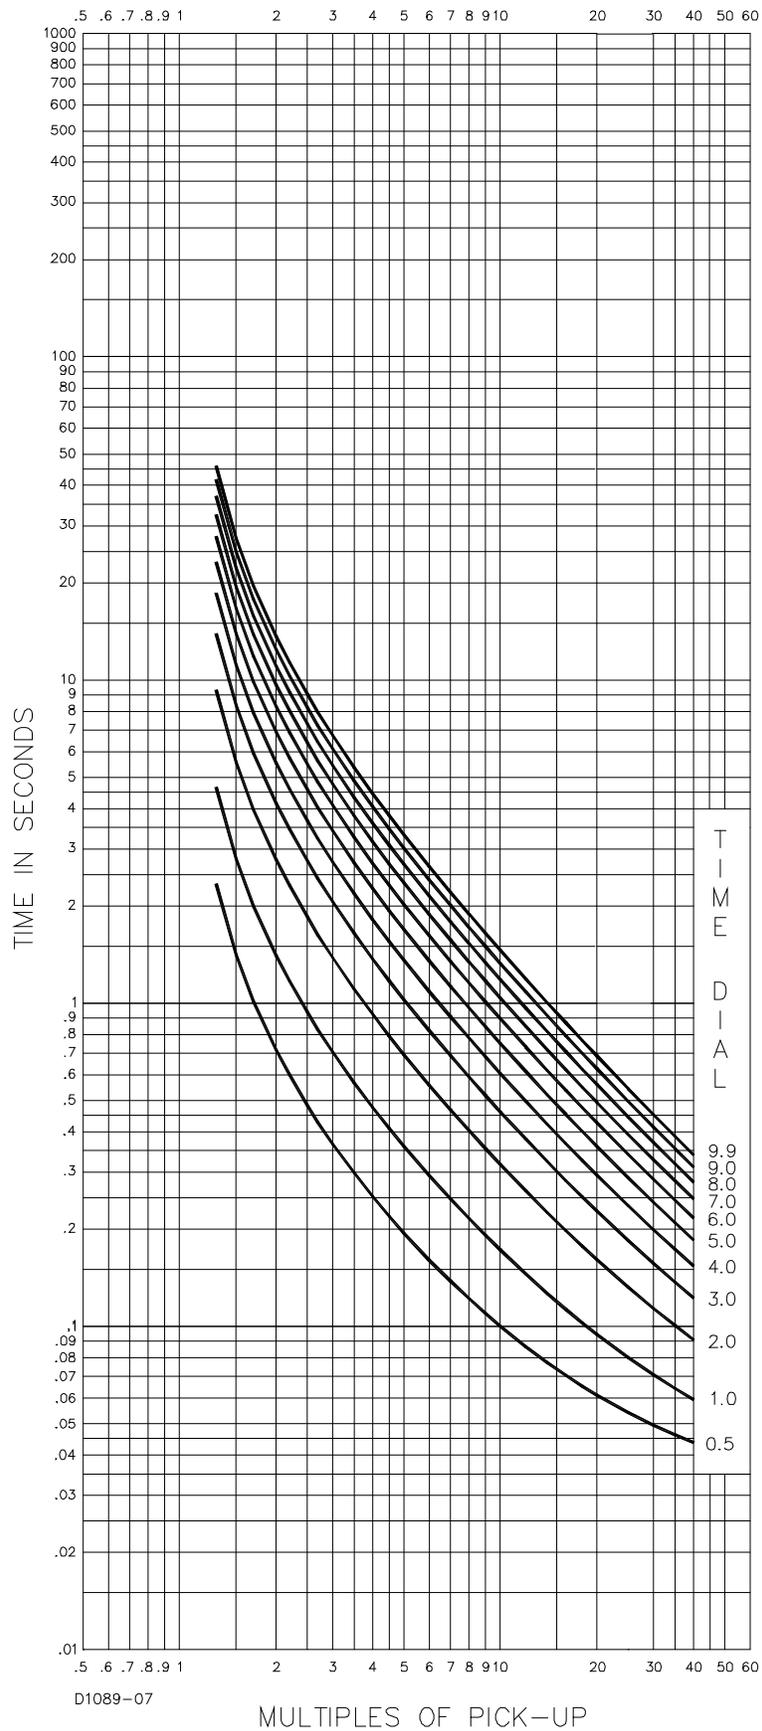

Figure 7-8. BS142-B Curve (BS142 Very Inverse)
- BS142-B (BS142 Very Inverse): Figure 7-8